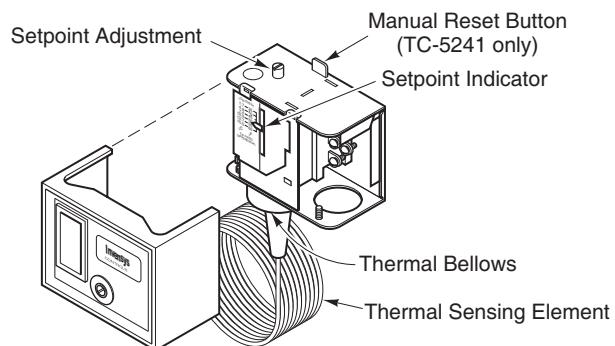

Figure-4 TC-52xx with Cover Removed.
6. Remove the cover. See Figure-4.